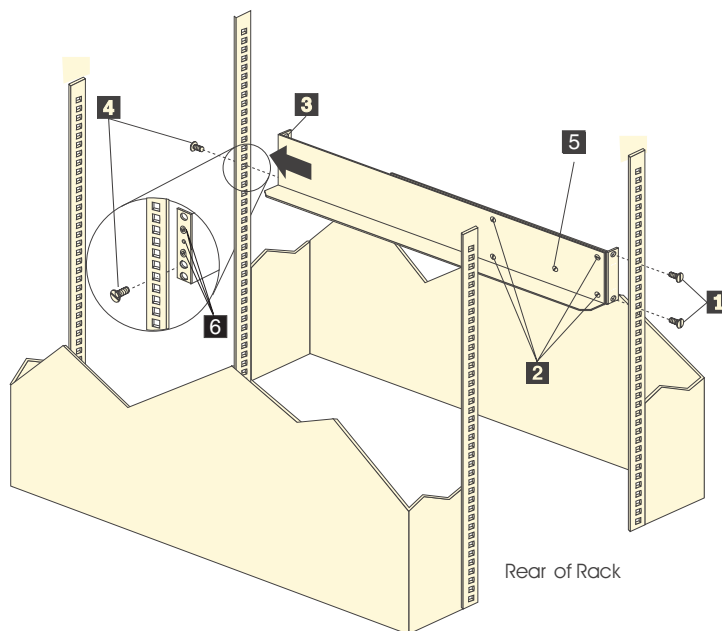

Figure 12. Installing the support rails
**Note:** Refer to Figure 12 on page 22 while performing these steps.
**Note:** The support rails are not marked as Left or Right. However, each rail can be correctly mounted on only one side of the rack cabinet. The rails should be mounted with the alignment pins at the front of the rack. Figure 12 shows the installation of the left support rail.
- d. From the back of the rack, insert the two 6/32 in. screws ( **5** in Figure 12 on page 22), one on each side, in the holes on the side of the unit. Tighten the screws.